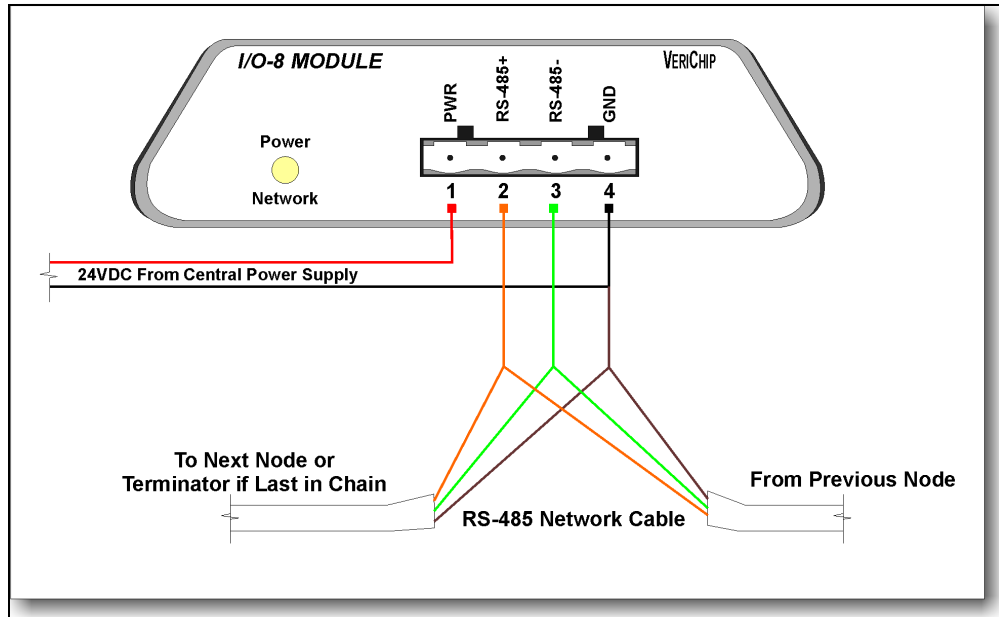

Figure 3-18: I/O-8 Module System Connections
- 3 Connect the RS-485 cable (see Figure 3-18 on page 3-40):
- 5 Connect the 24 VDC power cable (see Figure 3-18 on page 3-40):